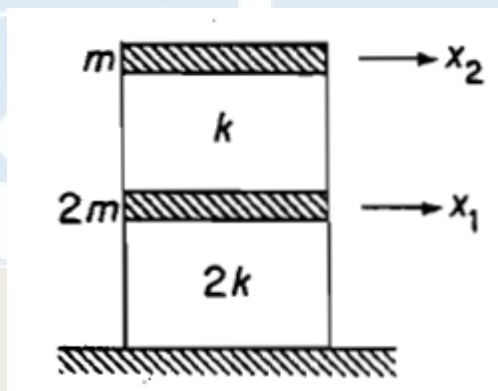

Fig.5.
17. a. What is a shear building? List the assumptions made in the lumped mass idealization of shear buildings? (4)
b. For the two storey shear building with floor mass and storey shears as shown in Fig.5. set up the equation of motion and hence determine its natural frequencies and vibration modes (10)